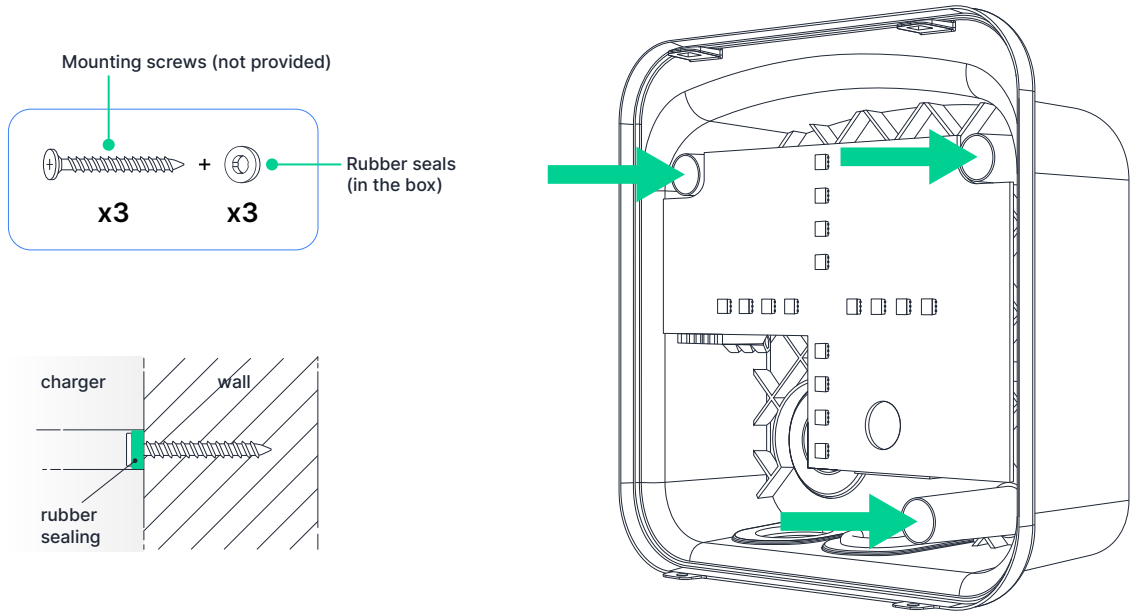

Fig. 6 - Mounting points of the 1P7K
**Anchor screws and corresponding screws are not included. (Fig 6 - page 18)**
9. Fix the main body of the charger on the wall by inserting the screws with the provided **rubber sealing washer through the mounting points** and tighten them with a screwdriver by hand. (Fig. 6 - page 18)